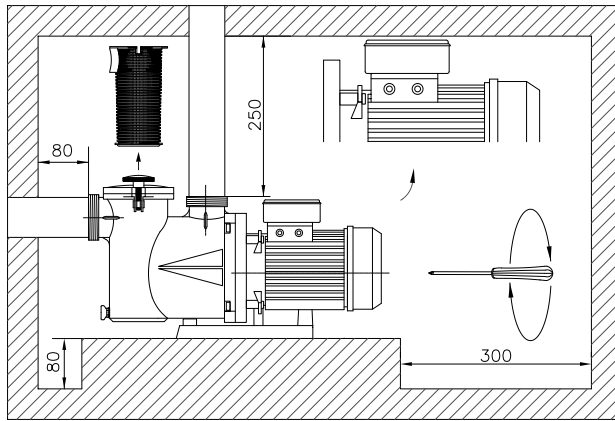

Fig. 1 / Bild 1 / Рис. 1 / Şekil 1
- Ensure that the motor turns freely. Never start the pump if the motor is blocked. The motors have a ridge at the end of the shaft in the fan area that allows users to manually check the motor rotation using a screwdriver. (FIGURE 1).